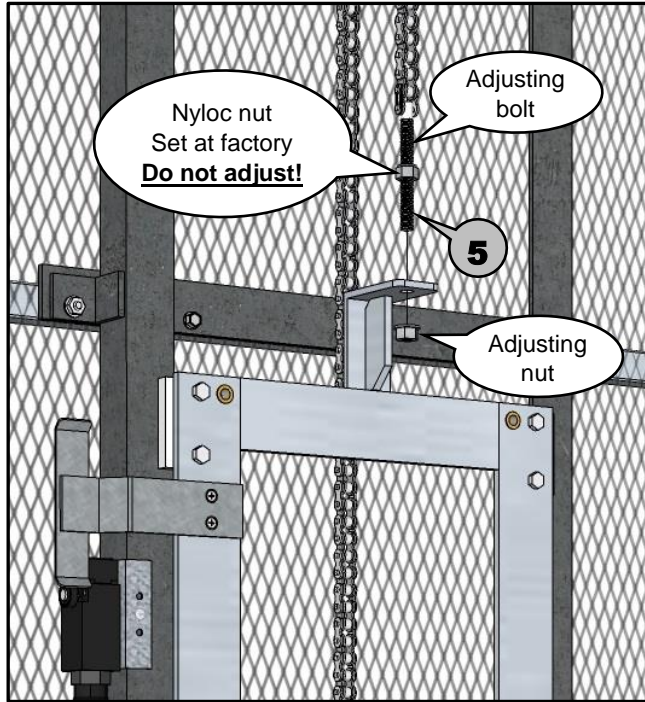

Figure 13
- 5** The other end of the chain with the adjusting bolt should hang down near the top of the trolley. Insert the threaded adjusting bolt, on the end of the chain, into the hole on the top of the trolley where the adjusting nut is tied on, and use the adjusting nut to secure the adjusting bolt to the trolley. Use a blade screwdriver or needle nose pliers to hold chain from twisting and tighten adjusting nut until Nyloc nut is tightly seated against trolley. **Do not adjust Nyloc! (see Figure 13)**